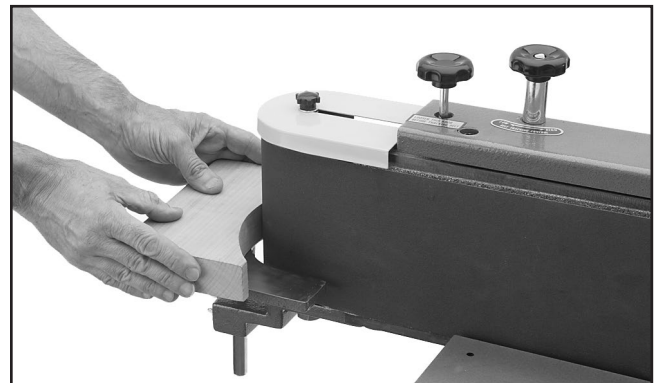

Figure 39. Example of contour sanding method.
4. While supporting the workpiece against the end table and keeping your fingers away from the belt, slowly feed the workpiece into the curved end and continue moving the workpiece profile along the contour until you achieve your desired shape, as shown in **Figure 39**.